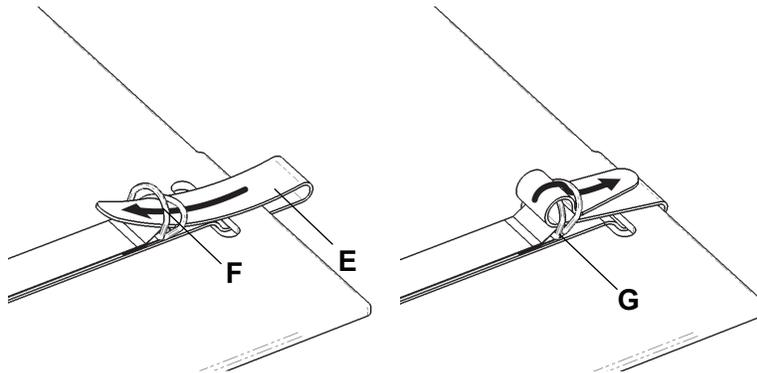
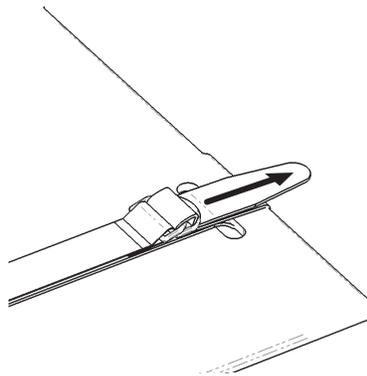

Figure 5 – Tie down strap
Figure 6 – Pull tie down strap
9. Put the tie down strap (E) through the D-rings (F) (Figure 5).
10. Loop the tie down strap between the D-rings (G) (Figure 5). Pull the tie down strap until secure (Figure 6).